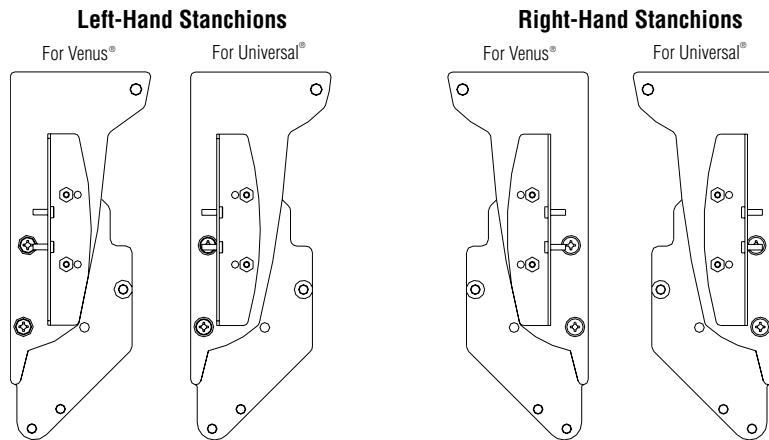

Figure 16
1. The overhead stanchions are factory assembled and ready for installation. Identify the proper stanchions to be used (Figure 16).